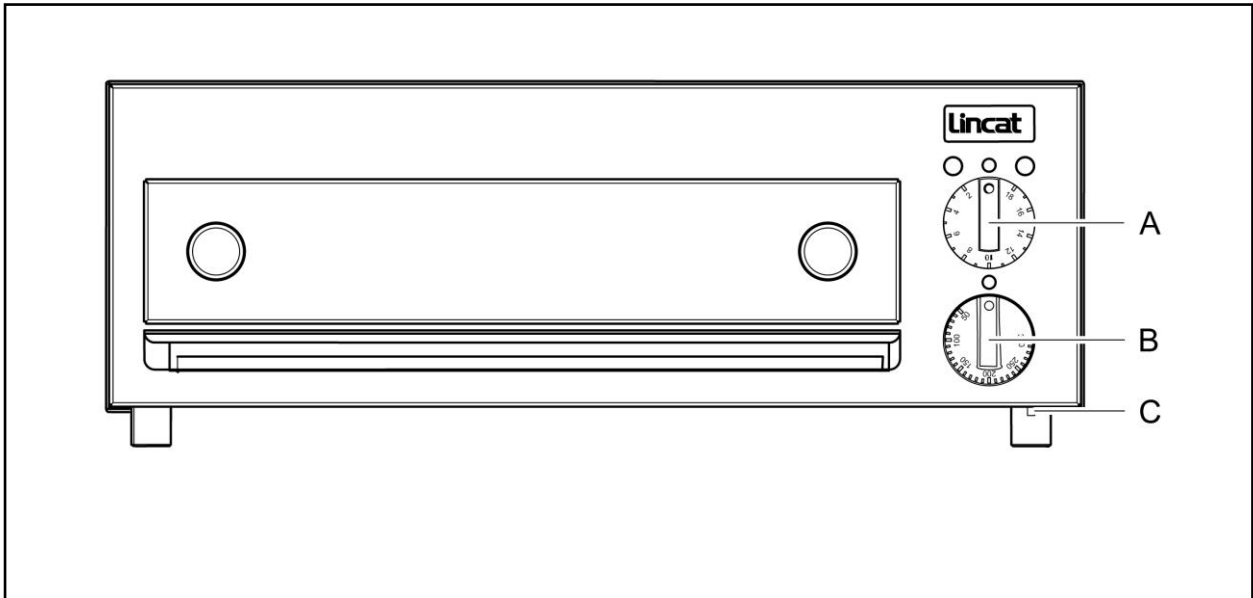

Fig 2
Turn the control knob Fig 2 (B) to the desired setting – the amber neon illuminates and extinguishes when the set temperature is reached. The neon then cycles with the element operation.